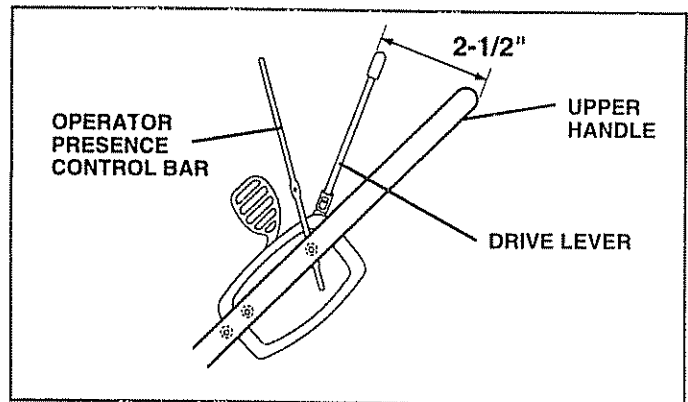

FIG. 23
- When rear wheels stop turning, hold the drive lever and check the dimension as shown in Fig. 23.